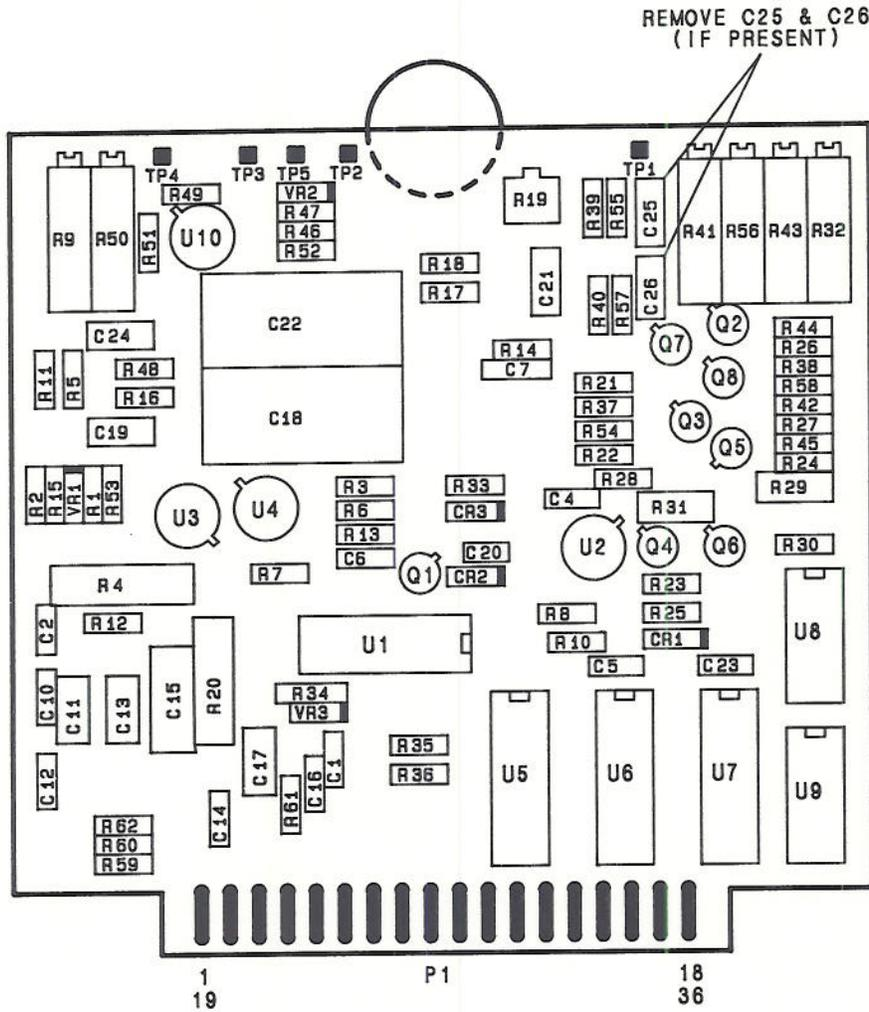

Figure 9. A19 Digital-to-Analog Converter (A19C25 and A19C26 Locations)
71. Locate positions for A19C25 and A19C26 in A19 DAC. If capacitors are installed, remove A19C25 and A19C26 from A19 DAC (Figure 9).